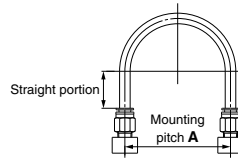

Fig. 1 Recommended piping configuration
1. **When connecting tubes using One-touch fittings, provide some spare tube length shown in Fig. 1, recommended piping configuration.**